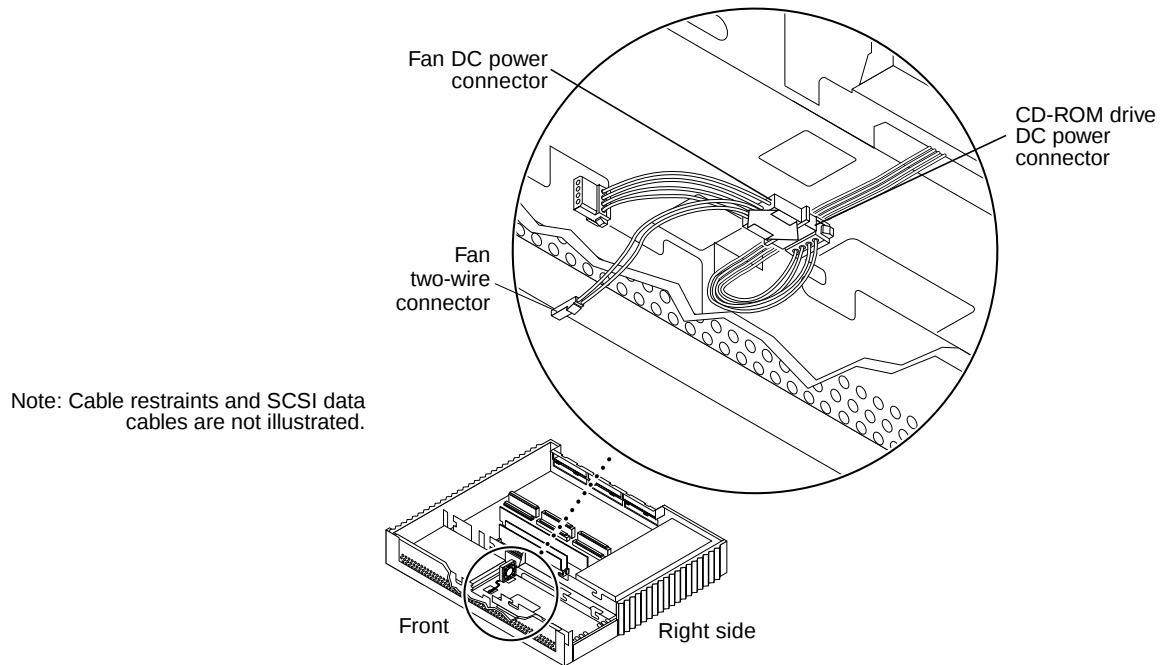

FIGURE 8-23 Connecting the Fan DC Power Connector
2. **Connect the fan DC power connector to the CD-ROM drive DC power connector** (FIGURE 8-23).